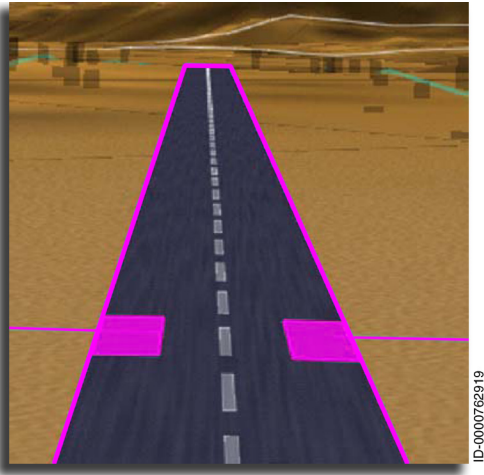

Figure 5-58
The glide path intercept point markers on the runway serve as a visual aiming point for landing the aircraft on the FMS-selected arrival runway. The runway glide path intercept point markers consist of magenta rectangular stripes located on each side of the runway approximately 1,000 feet from the runway threshold, as shown in Figure 5-58. The precise distance from the threshold is based on the threshold crossing height (TCH) and the published glideslope (GS) for the runway.